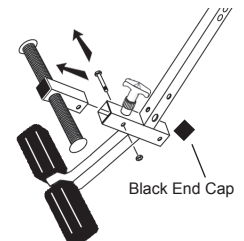

Figure 5
- Follow Step Three through Step One, reversing the installation process to remove the CV Bar and re-assemble the rear and front ankle clamp assemblies. (See Figure 5)